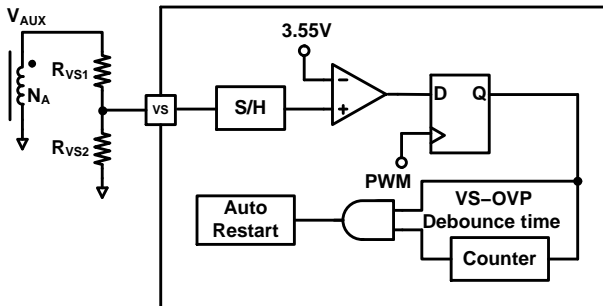

Figure 35. VS-OVP Protection Circuit
VS over-voltage protection prevents damage caused by output over-voltage condition. It is operated in Auto-Restart mode. Figure 35 shows the internal circuit of VS-OVP protection. When abnormal system conditions occur, which cause VS sampling voltage to exceed V_{VS-OVP} (3.55V) for more than 2 consecutive switching cycles (N_{VS-OVP}), PWM pulses are disabled and FAN604P enters Auto-Restart protection. VS over-voltage conditions are usually caused by open circuit of the secondary side feedback network or a fault condition in the VS pin voltage divider resistors. For VS pin voltage divider design, R_{VS1} is obtained from Equation (10), and R_{VS2} is determined by the desired VS-OVP protection function as